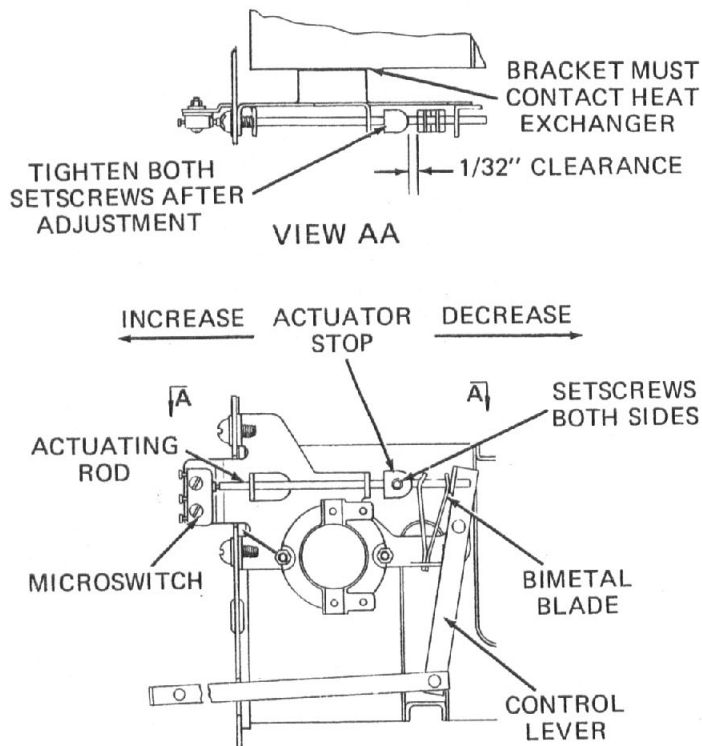

Figure 8. HI-LO Control and Microswitch Adjustment
b. The V-shaped bi-metal blade (figure 8) expands to widen the gap at the top of the V when heated. As the bi-metal blade expands, it strokes the actuator stop and pushes the actuating rod against the micro-switch. This causes the heating circuits to deenergize.